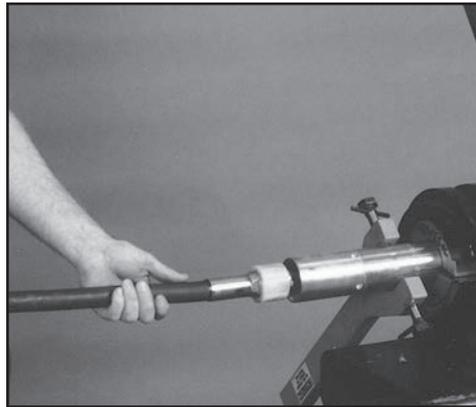

**FIG. 50: TENSION SPRING**
5. Pull back the spring and give it a counter-clockwise turn (from the front), at least half a turn, and then snap it into the nearest hole inside the lock bushing. This provides the torque for the operation of the control stud (see Fig. 50).